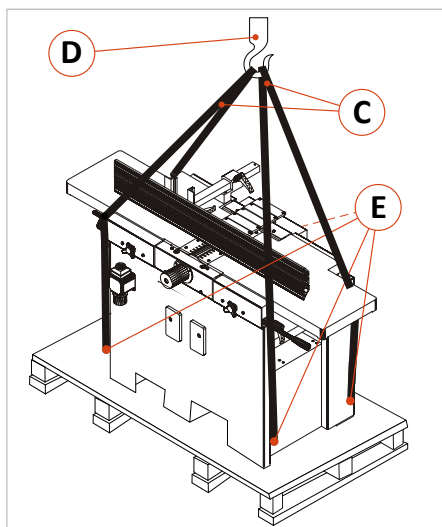

Figure 9: Unloading / setting down with crane
- Prepare four tension belts or nylon slip ropes (C) with the required load capacity and in sufficient length and hang them on the crane hook (D) as shown in ⇒ Figure 9.
- Then fasten the belts (C) in the four eyelets (E) of the machine.